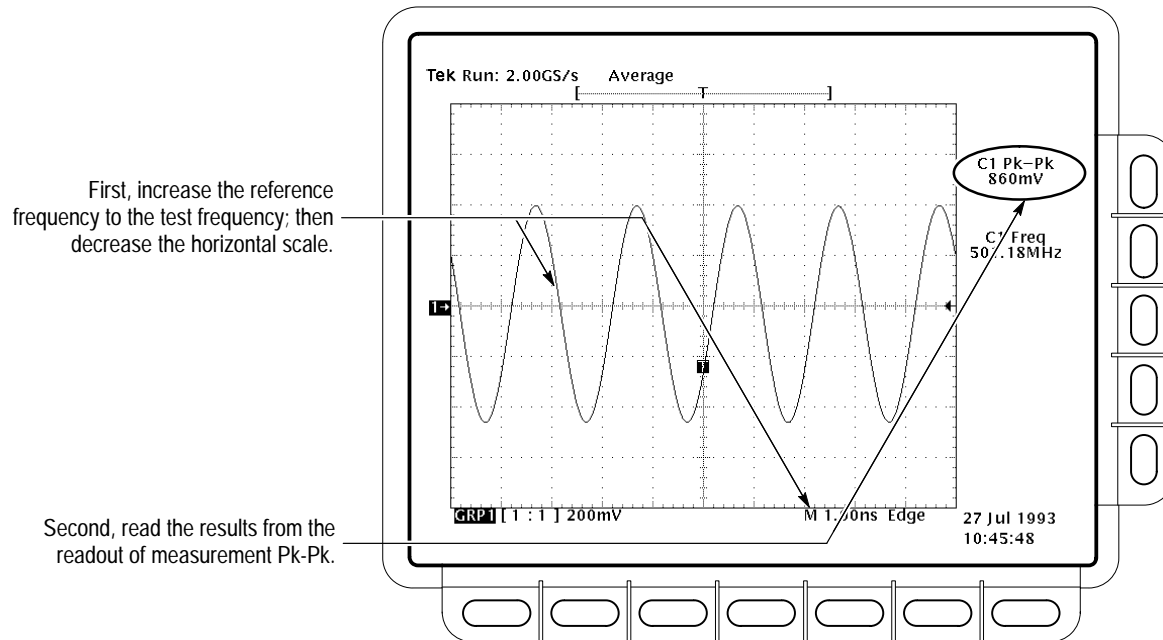

Figure 4-10: Measurement of Analog Bandwidth
- j. Read the results at the **C1 Pk-Pk** readout, which will automatically measure the amplitude of the test signal. See Figure 4-10.